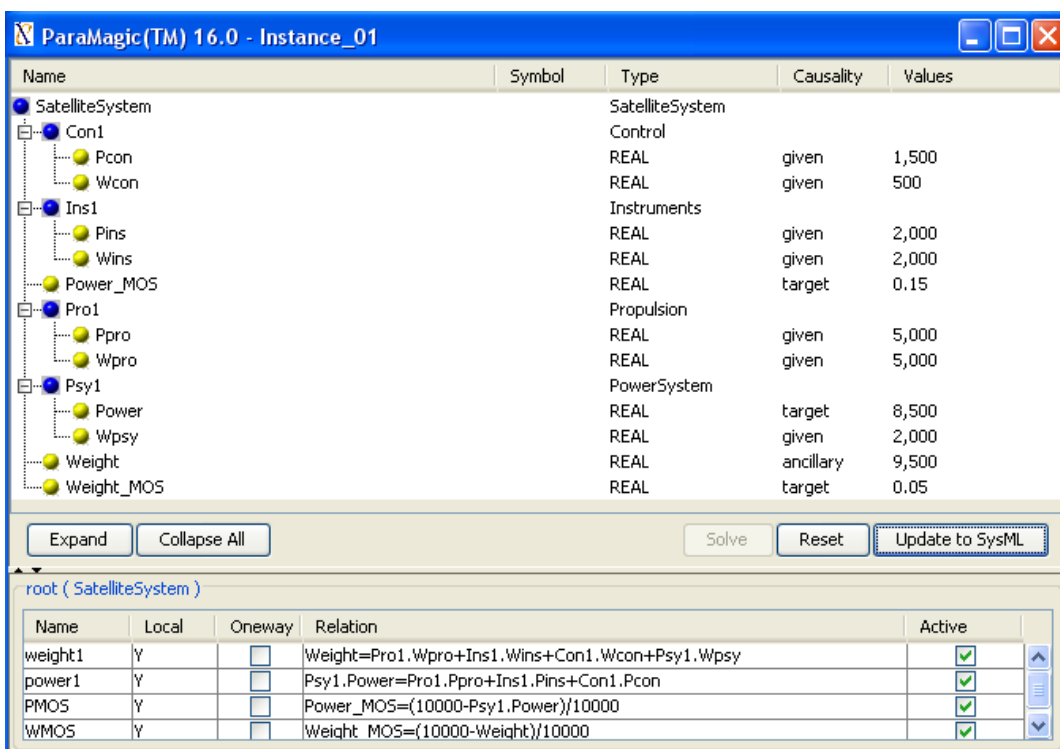

Figure 3.11 ParaMagic Browser for Instance_01, after solution
- i. The results in Figure 3.11 show positive values of Weight_MOS and Power_MOS. In other words, both requirements have been successfully met with positives margins of safety.